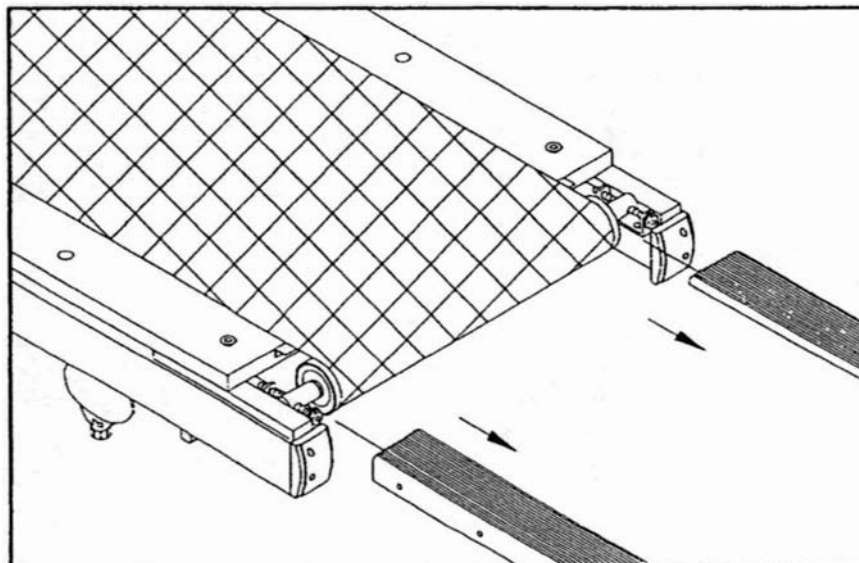

Fig.2
3. Slide the staging platform off from the rear end of the treadmill. (see Fig.2)